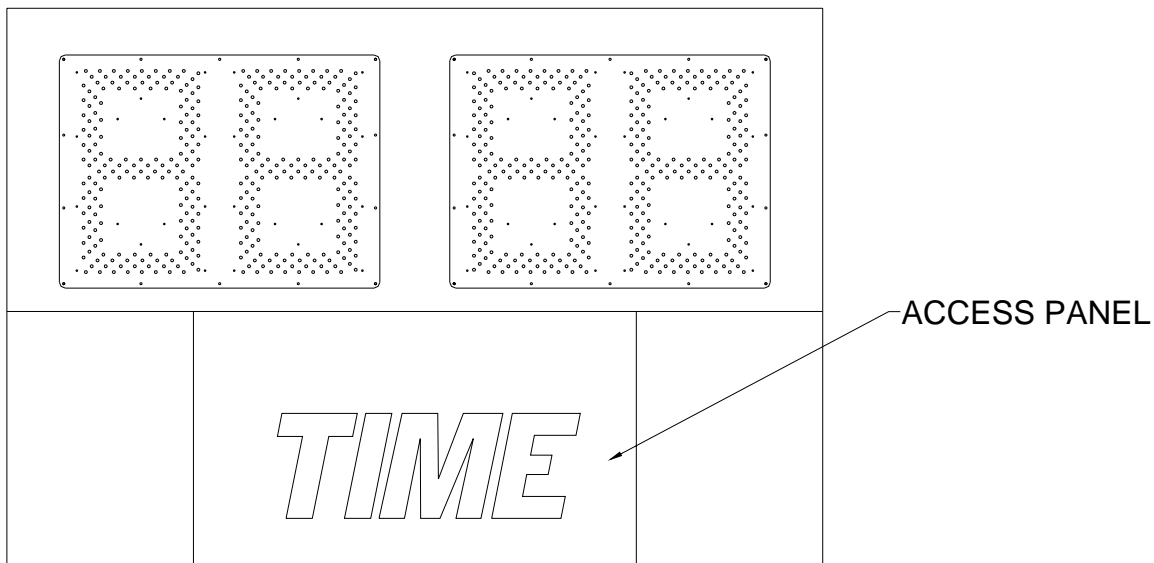

Figure 4 Access Panel
3. Remove the front access panel and the dome plugs. Figure 4 shows the location of the access panel. The dome plugs are located on the bottom of the softball timer cabinet below the access panel.